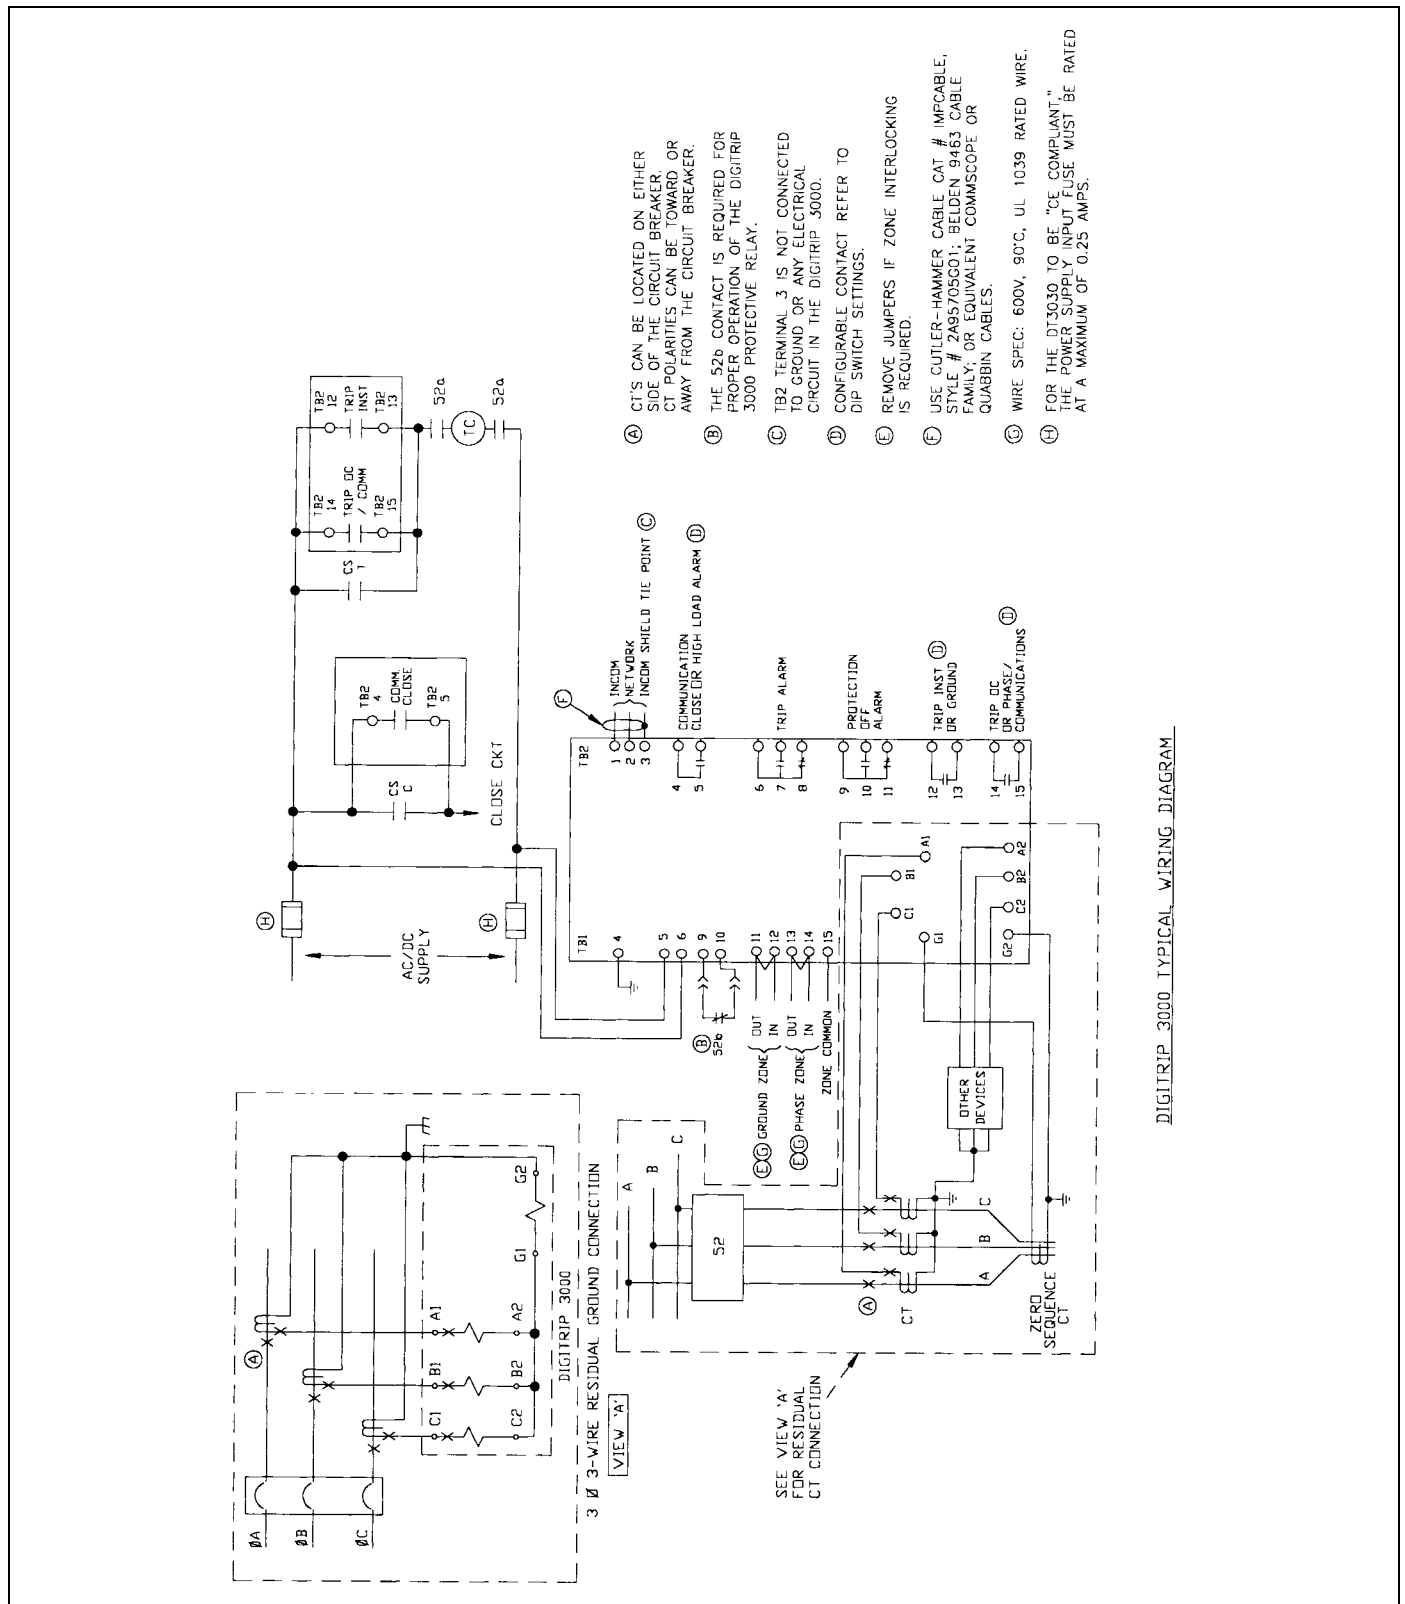

Fig. 3-1 Digitrip 3000 Typical Wiring Diagram
The Digitrip 3000 Protective Relay requires that a customer supplied source of input control power be wired into the TB1 terminal block located on the rear panel. Refer to the typical wiring diagram in Figure 3-1. A power supply can be either AC or DC voltage within the acceptable voltage ranges outlined in Paragraph 2-3 entitled "UL Testing and Specification Summary."
This section specifically describes the operation and functional use of the Digitrip 3000 Protective Relay. It does not address in detail rear power connections and DIP switch settings. These topics are covered in SECTION 5 entitled “INSTALLATION, STARTUP AND TESTING.” It would be helpful, however, to become familiar with the relay’s wiring diagram before proceeding with the rest of this section (Figure 3-1).
As shown in Figure 3-1, the ANSI and IEC “Curve Shapes” are in terms of multiples of (Pickup Current of the CT Primary), whereas “short delay” and “instantaneous” are in terms of multiples of I_n (5A secondary of CT primary current). The thermal curve is represented in terms of multiples of I_n for its curve shape, short delay, and instantaneous settings. This must be considered in the Coordination study and in the programming of the Digitrip 3000 Protective Relay.
Inverse time overcurrent protection consists of a curve shape pickup setting and an inverse time multiplier setting. The inverse time overcurrent function offers eleven possible curve shape types as previously described (Figure 3-1 and Table 3.1.). When programming the relay, this will be the first choice to make. The curve shape and its effect on the characteristic curve will be covered with the time multiplier explanations.
1. The Program Mode can be entered with the circuit breaker open or closed, depending on how DIP switch S2 is set. Refer to Table 5.1 for DIP switch settings. The circuit breaker position is determined via the normally closed breaker "b" contact on terminals 9 and 10 of TB1. Refer to the typical wiring diagram in Figure 3-1.
The Digitrip 3000 Protective Relay has a built in INCOM communication network port that is available on terminals 1 and 2 of TB2 (Figure 3-1). The device Address and the desired BAUD Rate are programmed using the following pushbuttons located on the front panel: "Select Tests," "Test," "Raise" and "Lower" and "Select Settings."